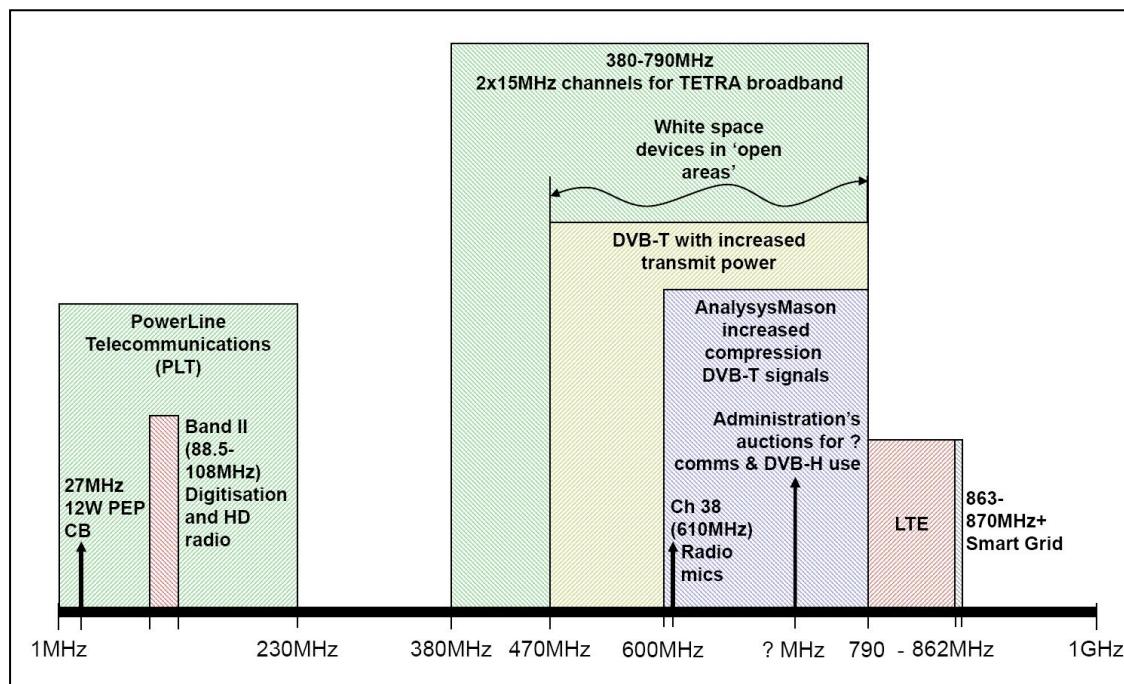

Figure 1: The Digital Dividend Spectrum (from Brian Copsey's TC210 report)
Background: Since the changes in spectrum allocation resulting from the WRC decision of 2007 were announced (i.e. the "digital dividend", see Figure 1, which contains other surprises too – for example the spectrum allocated to PLT – Editor), the European Commission (EC) and the Electronic Communications' Committee (ECC) have moved extremely quickly to consider: "The identification of common and minimal (least restrictive) Technical conditions for 790-862 MHz for the digital dividend in the European Union" (CEPT Report 30).
The policy of “flexible use of spectrum” will also see further changes in the use of the 470-862MHz band at present under discussion (see Figure 1) by the EC and ECC will likely increase the interference potential to citizen’s use of broadband and television services in coming years. For example: